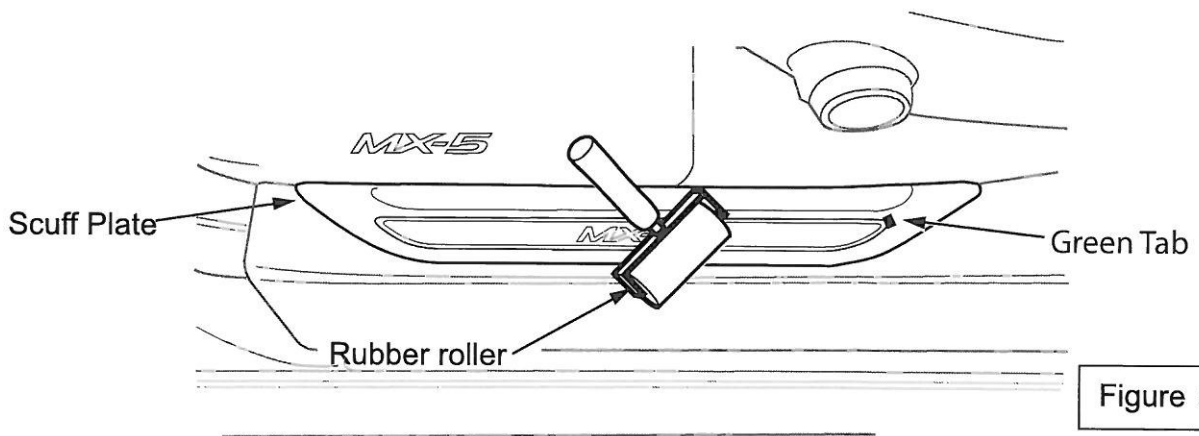

Figure 5
- A. Use Rubber Roller, from center out, press down the perimeter of part to ensure proper wet-out of adhesive. (Figure 5) (Use caution to ensure roller does not scratch vehicle)